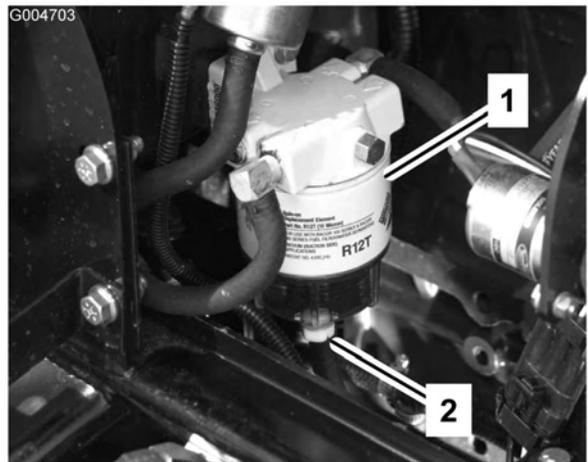

Figure 51
Drain water or other contaminants from the water separator (Figure 51) daily.
2. Loosen the drain plug on the bottom of the filter canister (Figure 51). Tighten the plug after draining.